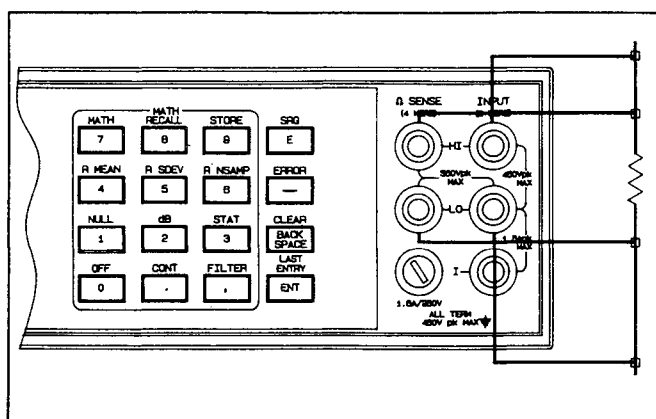
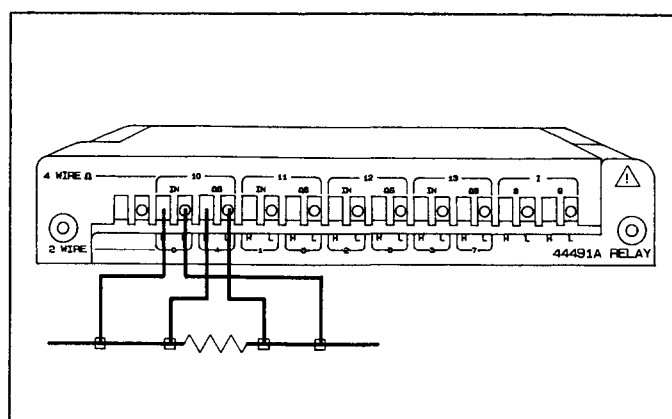

Figure 3-1. Front Panel Connections
Figure 3-2. Plug-In Connections
**3-23. Input Connections.** For 2-Wire Ohms measurements, the unknown resistance is connected to the INPUT HI and LO terminals. This applies to both front and rear terminal operation. When using one of the optional Plug-In assemblies, the input would be connected to the HI and LO inputs of a particular channel. For 4-Wire Ohms measurements, the unknown resistance is connected to the INPUT HI and LO terminals and to the Ω SENSE HI and LO terminals as shown in Figure 3-1. When using the HP 44491A General Purpose Multiplexer assembly, the unknown resistance is connected as shown in Figure 3-2.